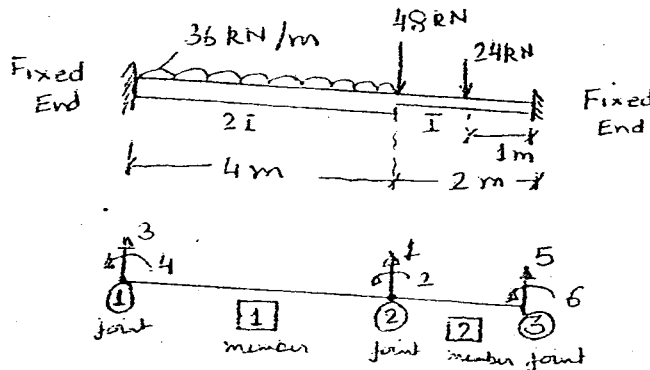

Fig 6
Q.5 A stepped beam is shown in Fig.6. The members, joints and co-ordinates are numbered as shown. Identify and indicate unrestrained and restrained displacement matrices. Using "stiffness matrix method" work out the "member end actions". Find out supports reactions from the "member end actions". (12.5)